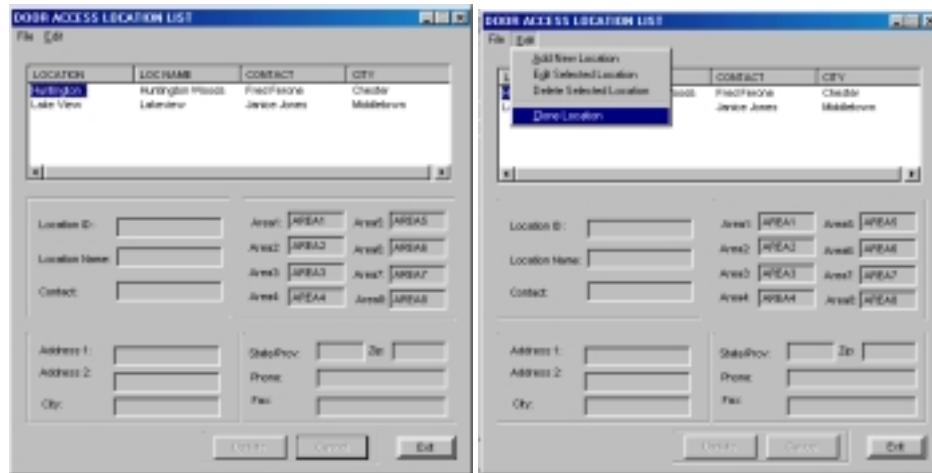

Figure 11.18 Cloning a Location
1. In the Door Access Location List window click the location to clone from the Locations List Window (Figure 11.18).
2. Select Clone Location from the Edit drop-down menu (Figure 11.18).